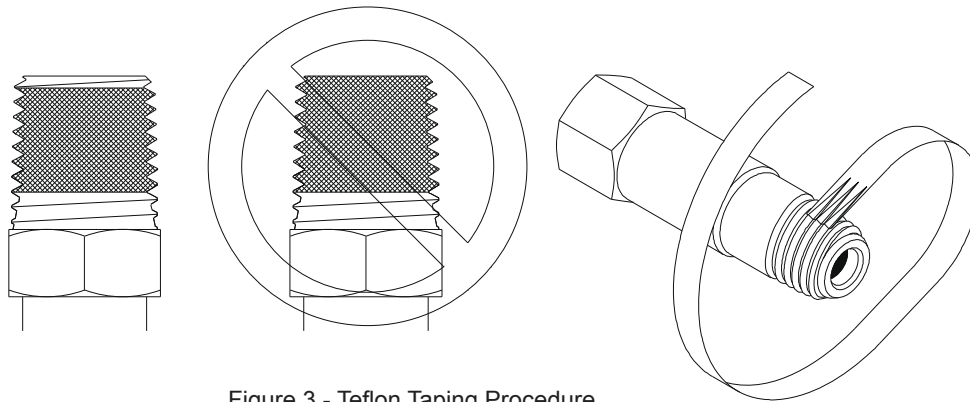

Figure 3 - Teflon Taping Procedure
2. Be sure that all fittings are secure and leak tight. Teflon tape should be used on pipe fittings, but avoid impinging on the gas stream. Before applying Teflon tape, inspect the NPT threads and if necessary, clean the fitting to remove any dirt or thread sealant that remains on the threads. Start the Teflon tape on the second thread as shown in Figure 3. Make sure the tape does not overlap the end of the fitting. As the tape is wrapped in the direction of the thread spiral, pull tightly on the end of tape so that the tape conforms to the threads. Apply two overlapping layers of Teflon tape. Cut off the excess tape and press the end firmly into the threads.